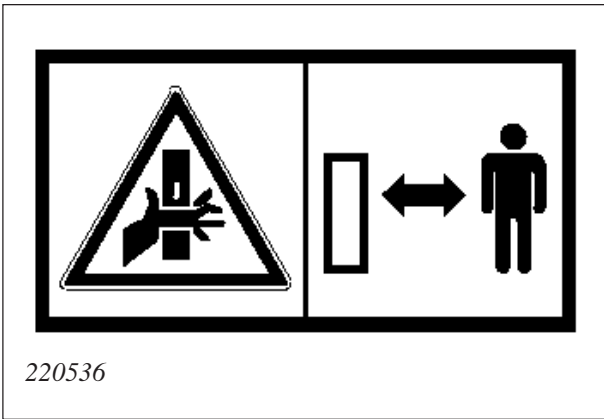

Fig. 18
**Warning sign 220536 (Fig. 18).** Squeeze risk. Keep distance from moving parts.